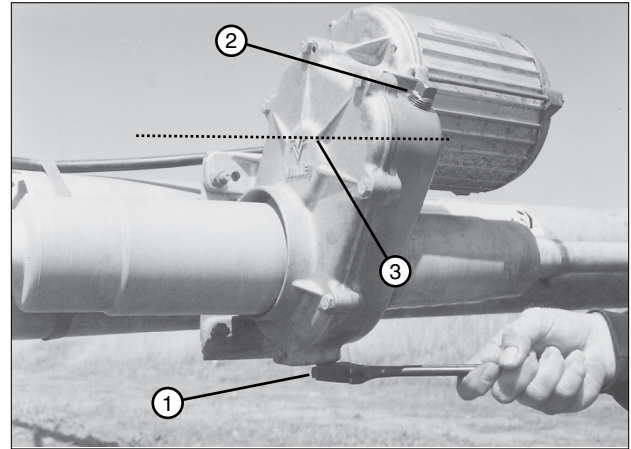

Figure 87-1 1. Drain Plug
1. Remove the drain plug and the fill plug. Drain the oil and install the drain plug. See figure 87-1.